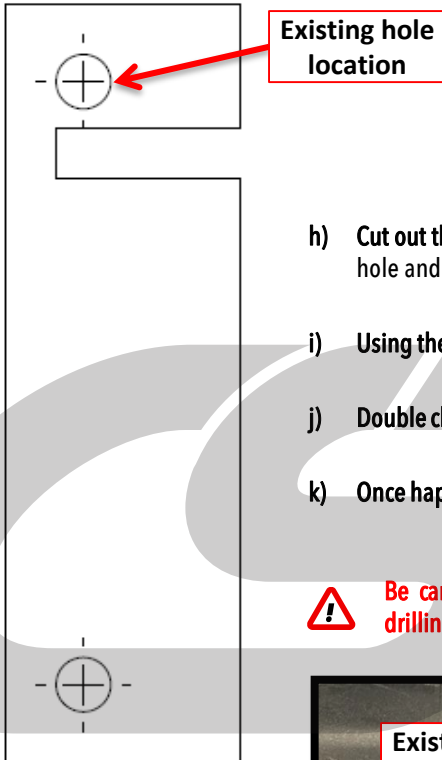
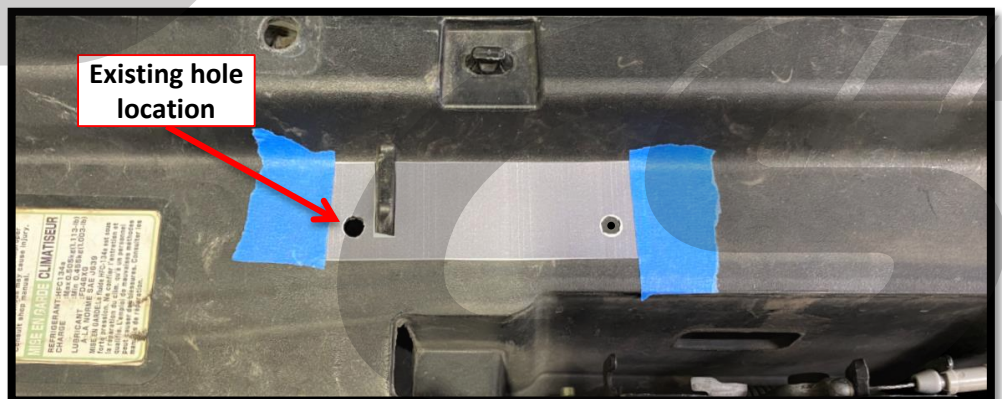

Figure 11e
Figure 11f
- h) Cut out the hole drilling template shown in **Figure 11e**. This template aligns with the existing hole and radiator core support as shown in **Figure 11f**.
- i) Using the template as a guide, mark the second mounting location as shown in **Figure 11f**.